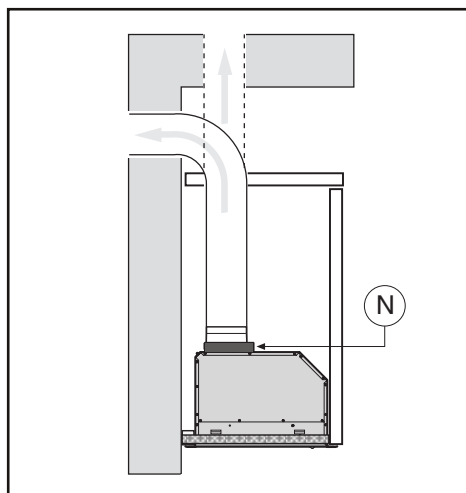
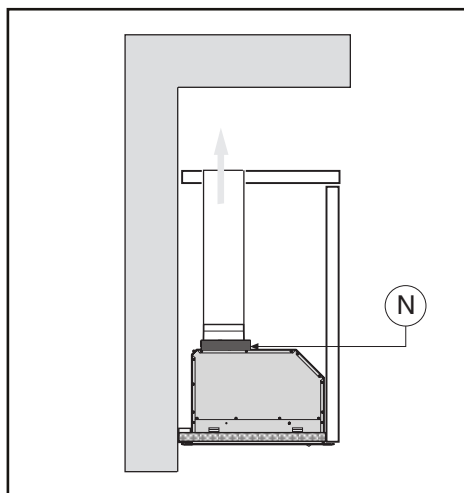
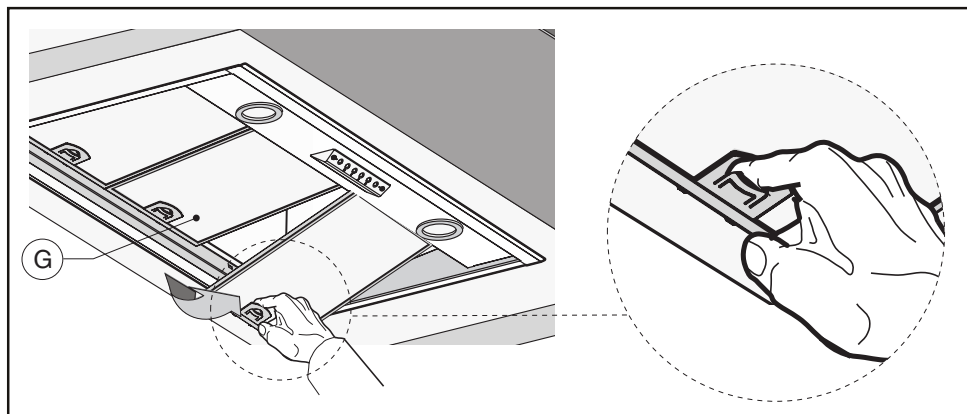
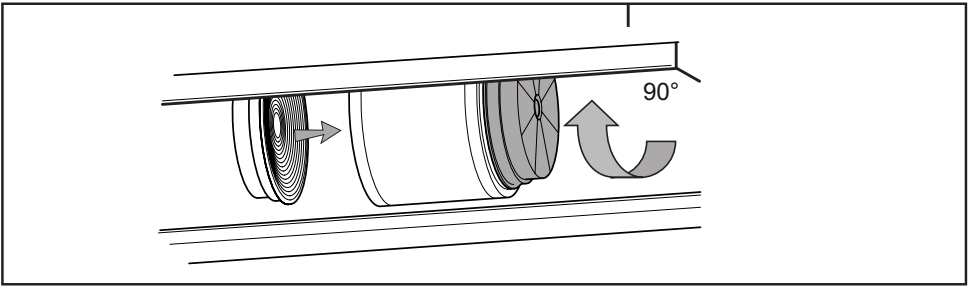

Fig.6
Fig.7
Fig.8
Fig.10
The appliance has been designed for use in the ducted version (Fig.6) and recirculated version (Fig.7).
- The minimum distance between the support surfaces of the cooking pots on the cook top and the lowest part of the range hood must be at least 65 cm. If a connection tube composed of two parts is used, the upper part must be placed outside the lower part. Do not connect the range hood exhaust to the same conductor used to circulate hot air or for evacuating fumes from other appliances generated by other than an electrical source. Before proceeding with the assembly operations, remove the anti-grease filter(s) (Fig.7) so that the unit is easier to handle.
It is therefore necessary to purchase a non-flammable ducting (not supplied) which complies with all current legislation and connect it to flange **N** (Fig. 6).
The filters should be fitted to the extraction assembly inside the hood, by centering them and rotating them 90 degrees, until they click into place (Fig. 10). Remove panels **G** when performing this procedure (Fig. 8 - 9). The air is released back into the room through an air exhaust pipe which passes through the cabinet and is connected to air exhaust hole **N** (Fig. 7)